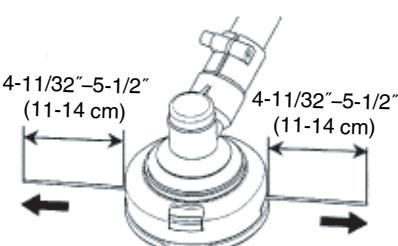

Fig. 42
- (7) The initial cutting line length should be approx. 4-11/32"-5-1/2" (11-14 cm) and should be equal on both sides. (Fig. 42)